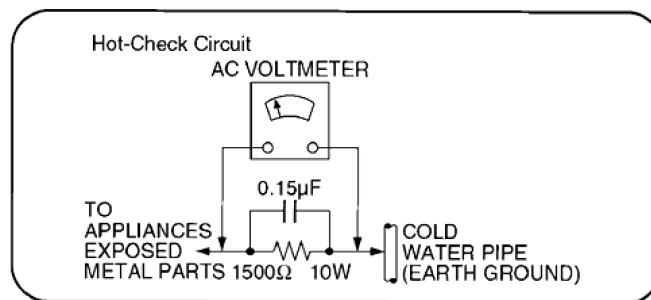

Fig. 1
1.1.2. Leakage Current Hot Check (See Figure 1)
2. Connect a $1.5k\Omega$, 10 watts resistor, in parallel with a $0.15\mu F$ capacitor, between each exposed metallic part on the set and a good earth ground such as a water pipe, as shown in Figure 1.